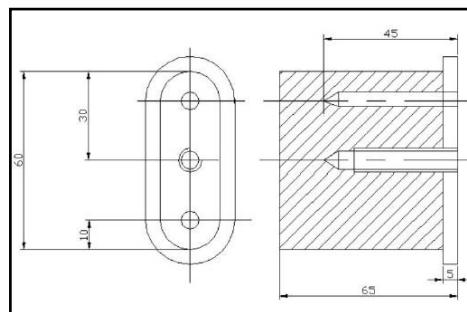

Figure 9.1. Progressive Die
- A progressive die is shown in figure 9.1 while the piercing punch blanks out a portion of the metal in which two holes had been pierced at a previous station Thus after the stroke two holes will be punched each stroke of the press produces a required finished component using figure 9.1